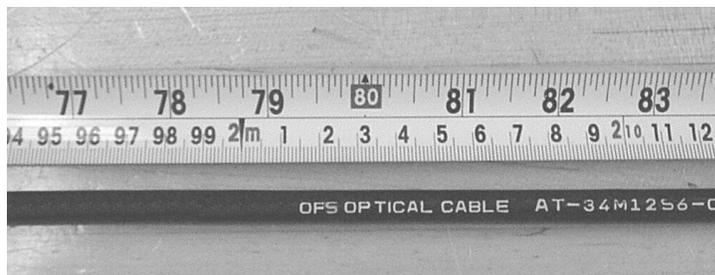

Figure 1 - Measure and mark the cable.
4.1 Consult the splice closure instructions for the required length of cable jacket that must be removed. Measure and mark the cable at the appropriate stripping length (Figure 1).